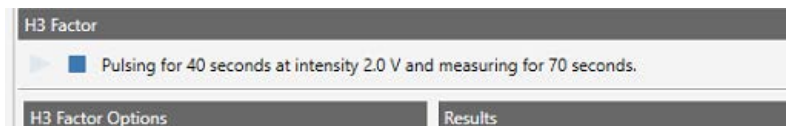

Figure 7-47. Starting the determination at 2 V intensity
5. Before each measurement Qtegra will request to adjust the appropriate pressure step. If confirmed it will start to determine the isotope ratio for that pressure after a delay time and request a next increase of pressure until the upper range is reached (see Figure 7-47).